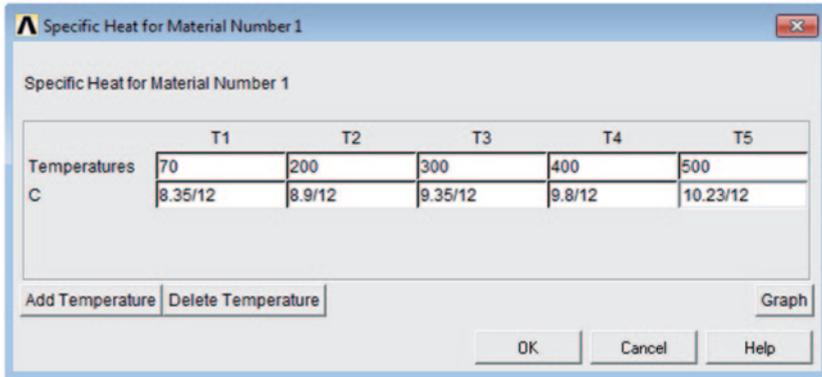

Fig. 9.4 Conductivity values at five different temperatures
- Enter the corresponding thermal conductivity values referring to Table 9.2. However, the values given in Table 9.2 are in units of Btu/hr-ft-°F, which must be converted to Btu/hr-in-°F. This can be achieved within the dialog box, as shown in Fig. 9.4. Therefore, enter *8.35/12, ..., 10.35/12*.